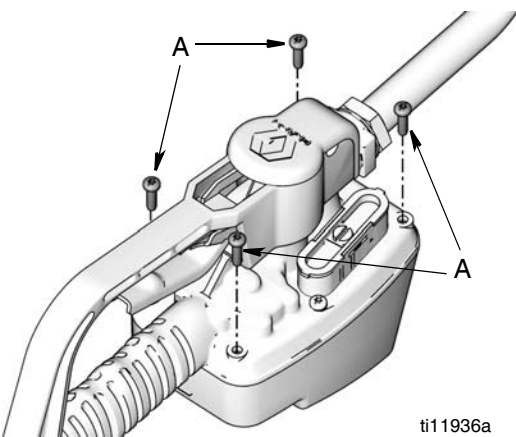

FIG. 30
2. Use a Torx (T20) wrench to remove 4 corner screws (A) located on the bottom of the meter (FIG. 30). Keep these screws for reassembly.